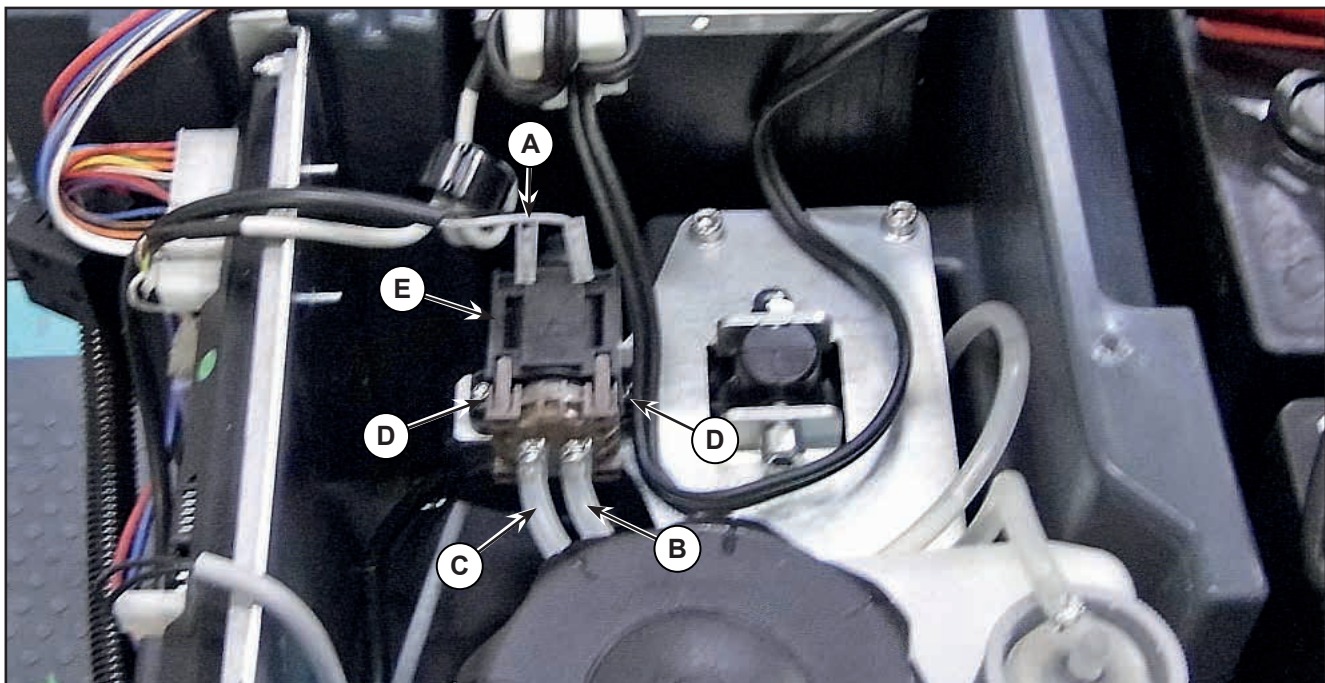

Figure 12:
4. Disconnect the connectors (A) (Figure 12), the tank hose (B) and brush hose (C).
5. Unscrew the two screws (D) and remove the detergent pump (E).